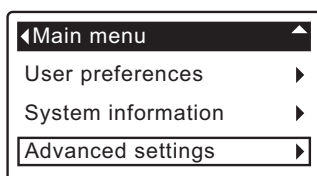

FIG. 66
1. From any of the rolling status screens, press the SELECT (O) button to display the **Main menu**.
2. Press the DOWN (▼) button to scroll through the menu options until **Advanced settings** is highlighted (See Figure 66).